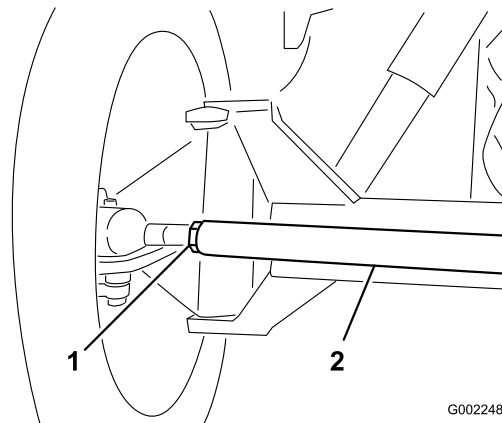

Figure 136
3. If the measurement does not fall within the specified range, loosen the jam nuts at both ends of the tie rod (Figure 136).